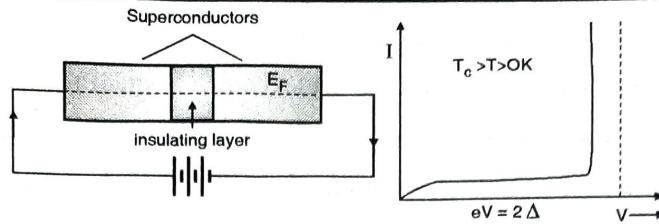

Fig. 5.7.4 : Tunneling in a superconductor –insulator-superconductor and Current-voltage characteristics at $T = 0$ K and $T_c > T > 0$ K
- Consider the possibility that, the thin insulator is sandwiched between two superconductors as shown in Fig. 5.7.4.
- The current-voltage relation at different temperatures is shown in the Fig. 5.7.4. The tunnelling current across the junction is very small. In practice two Josephson effects are used, namely D.C. Josephson effect and A.C. Josephson effect.